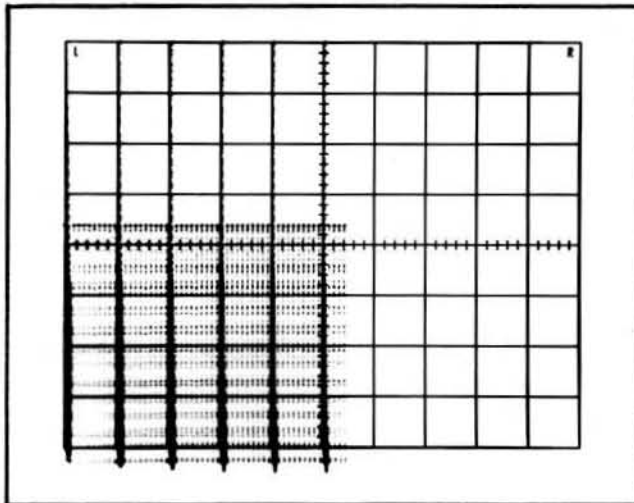

Fig. 5-4. Typical CRT display when checking sweep length.
c. CHECK—CRT display for sweep length of 10.4 divisions within 0.3 division as shown by 0.1 to 0.7 division of display to the right of the center vertical graticule line (see Fig. 5-4).
h. CHECK—CRT display for sweep length of 10.4 divisions within 0.3-division as shown by 0.1 to 0.7 division of display to the right of the center vertical graticule line (see Fig. 5-4).